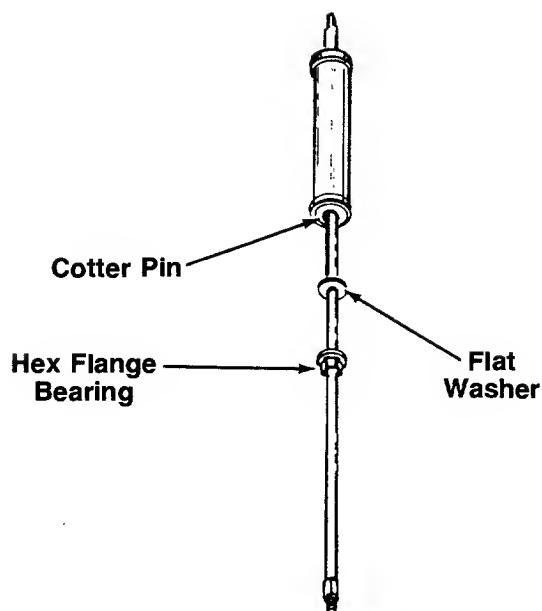

FIGURE 5.—Style A Only
4. Hold the **steering shaft** upright, so that the **cotter pin** is closer to the top of the shaft. Slide the **steering tube spacer** and **steering tube** down over the **shaft** (above the cotter pin). See figure 5.
5. Slip **flat washer** (1 1/4" diameter) on the **steering shaft** immediately below the cotter pin. Place one plastic **hex flange bearing** flat side up, below the washer. See figure 5.